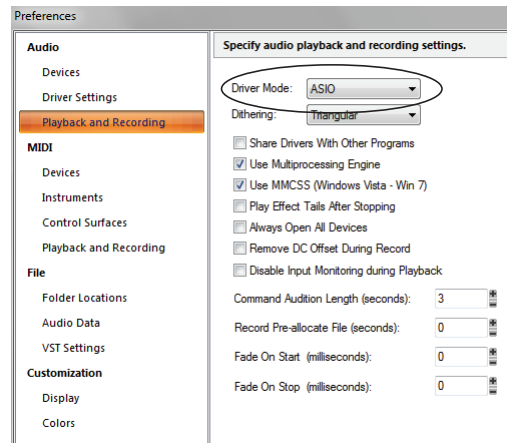

Figure 7-7: Enabling the MOTU Audio ASIO driver in SONAR.
- 5 Check the 896mk3 Hybrid inputs and outputs that you wish to use and uncheck the ones you don't, as shown in Figure 7-7 on page 60.